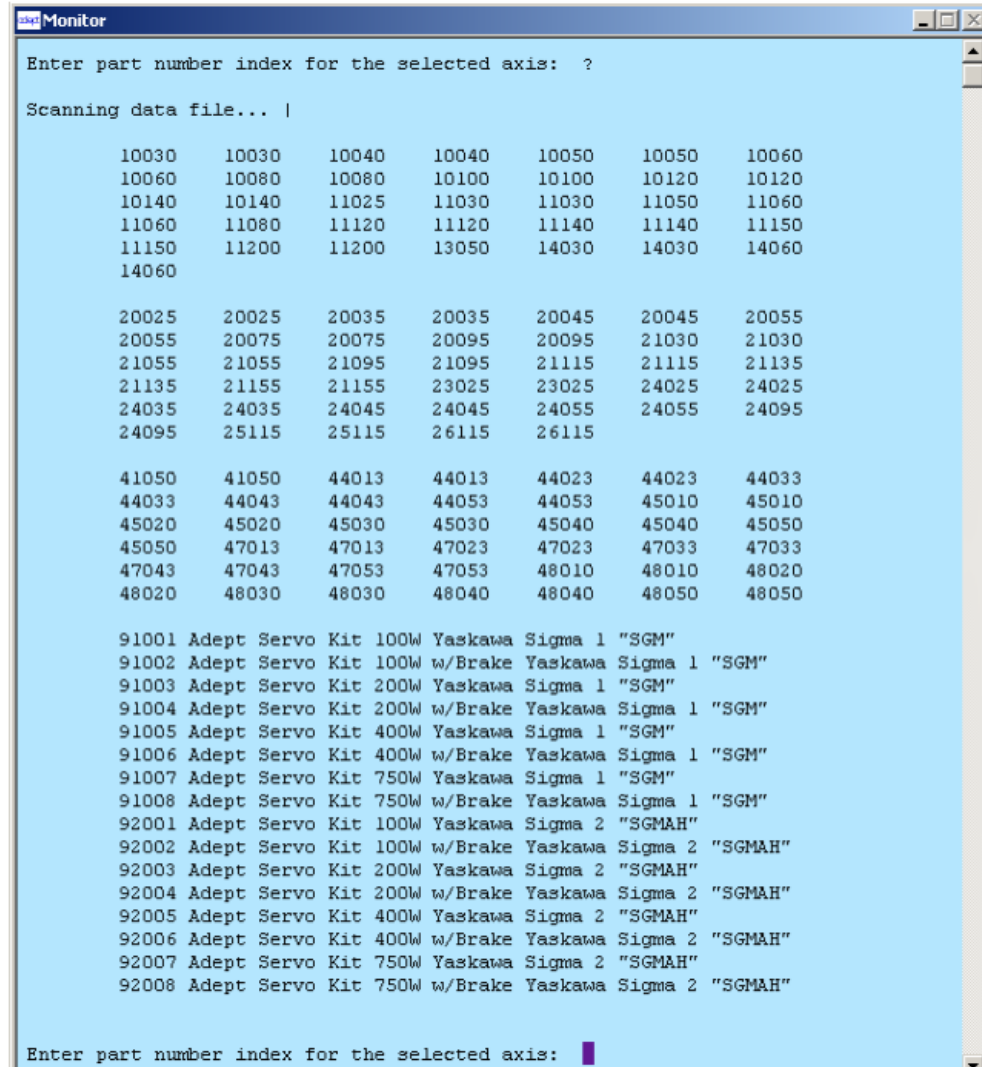

Figure 4-17. DC_SETUP (LM Linear-Module Robot Module)
7. When prompted to enter the part number index for the selected axis, enter the five-digit part number of the motor you are configuring, or type "?" and press ENTER to display a list of the supported motor part numbers. If you enter "?", a screen similar to the one shown in Figure 4-17 will be displayed.